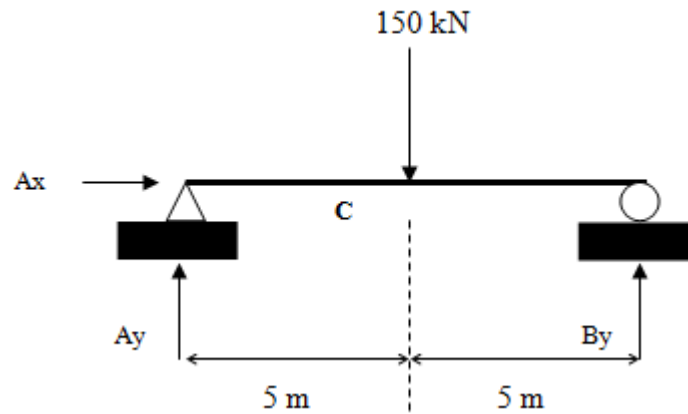

Figure A2c (i) / Rajah A2c (i)
- (c) i. Calculate the reactions at the supports based on **Figure A2c (i)**.